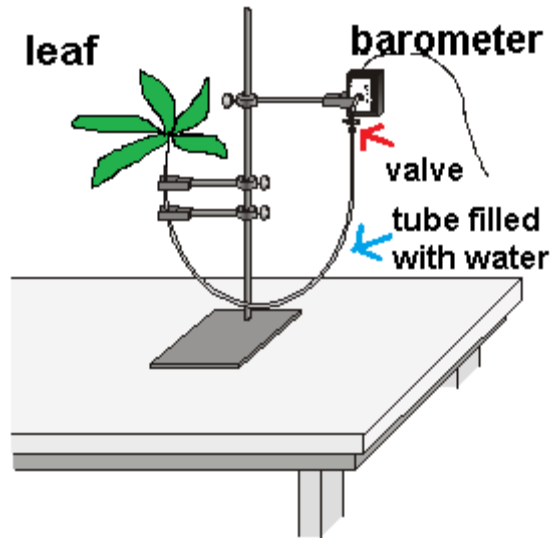

Fig. 1: Apparatus for exploring plant transpiration (Redding & Masterman, 2007 - adapted).
- 1) Attach the utility clamps to the ring stand as shown in Fig. 1.
- 5) Fix the tube to the ring stand so that its end with the leaf is ca. 5 cm under the level of water surface in the other end of the tube connected to the barometer (shown in Fig. 1).